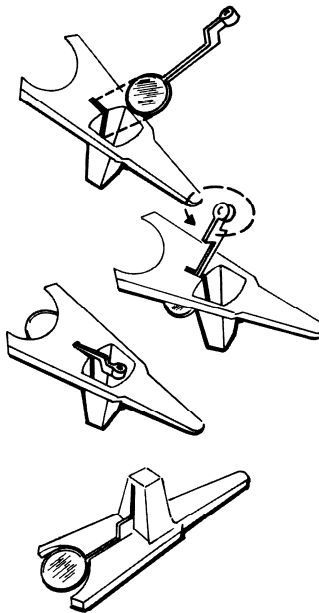

Figure 4. Base and Specific Gravity Stand out of Container.
2. Cut the strap and lift off the upper half of the poly-container. Remove the base and specific gravity stand. Hold the base upside down. Insert the round, flat end of the stand through the slot in the base. Rotate stand into position as shown in Figure 4. Rotate it as soon as the round end clears the opening. When the base and the specific gravity stand are upright, the OHAUS on the stand must be facing down.